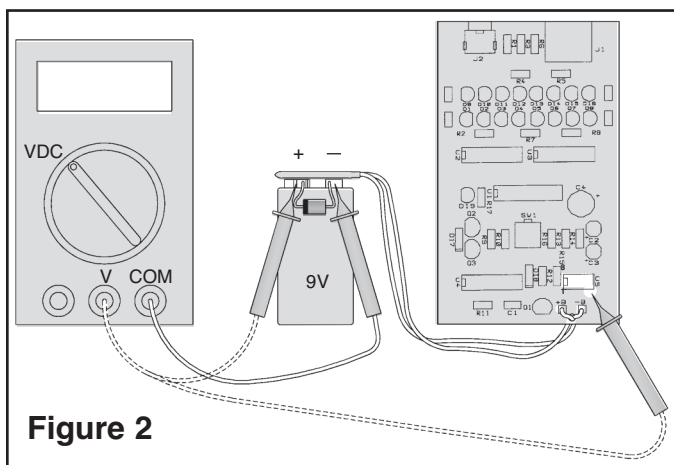

Figure 2
- ❑ 2. Set the voltmeter to read 20VDC and connect the COM lead to the negative (-) side of the battery and the V lead to the positive (+) side of the battery as shown in Figure 2. The meter should indicate 9-10VDC. Push switch SW1.
Push the switch SW1 again and short the battery by the zener diode for 1-2 seconds (the side with the band should be touching the "+" terminal of the battery, see Figure 2). LED D19 (Lo Batt.) should be lit. Remove the zener diode and the LED should turn off. If not: